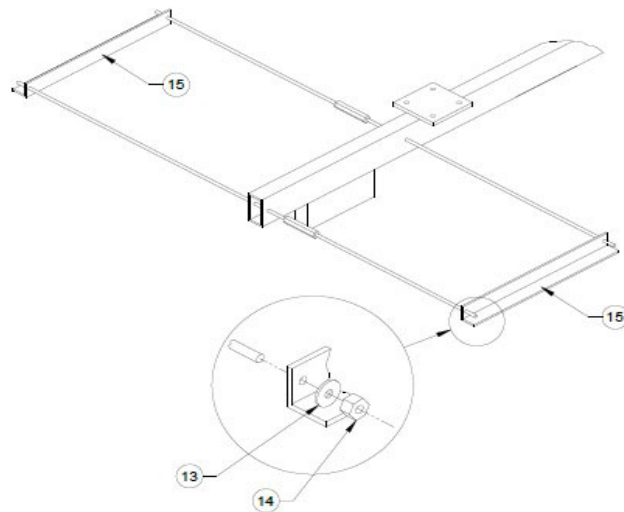

Figure 5: Angle Clamp Assembly
4. Slide an angle clamp (15), face down and outward, on both ends of the rods by aligning the pre-drilled holes with the threaded rods (see Figure 5). Install the angle clamp with a 3/8" lockwasher (13) against the clamp and a 3/8" coupler nut (14), but do not tighten.